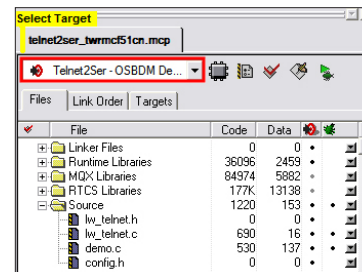

Figure 2: MQX Source Tree
- Open the config.h file in the CodeWarrior window. Double-click the file item located in the "Source" group in the CodeWarrior project tree. See Figure 2.